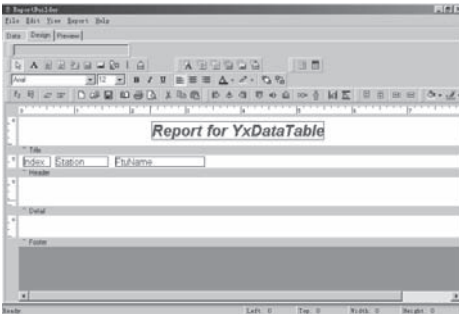

Fig. 8.14
3.2 Design the Head of the Report. For example, as in Fig. 8.14, set the **labels** such as Index, Station, Comat BoxX Name and so on.